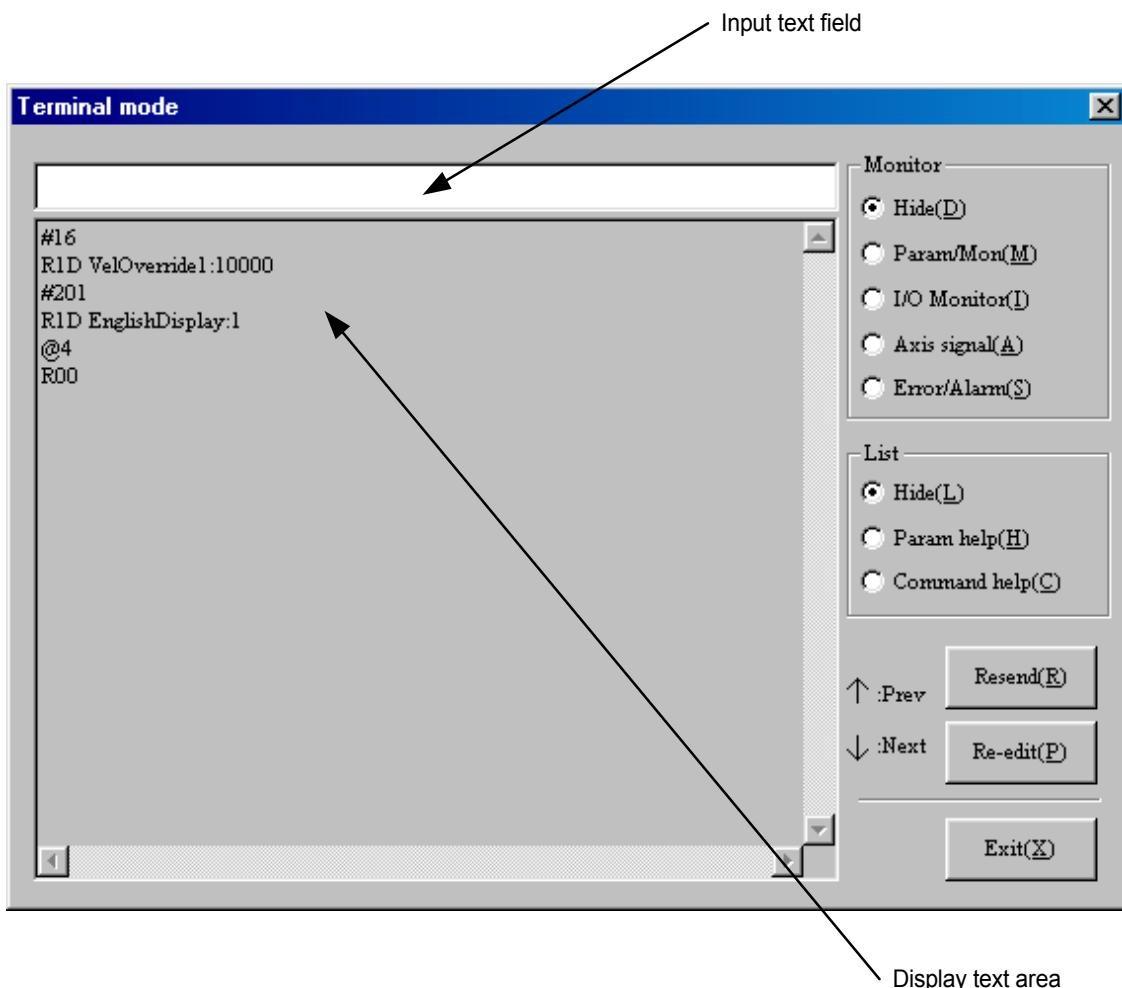

Figure 8.9 “Terminal” dialog box
Click “**Terminal (T)**” under “MainMenu” to display the “Terminal” dialog box (see Figure 8.9).